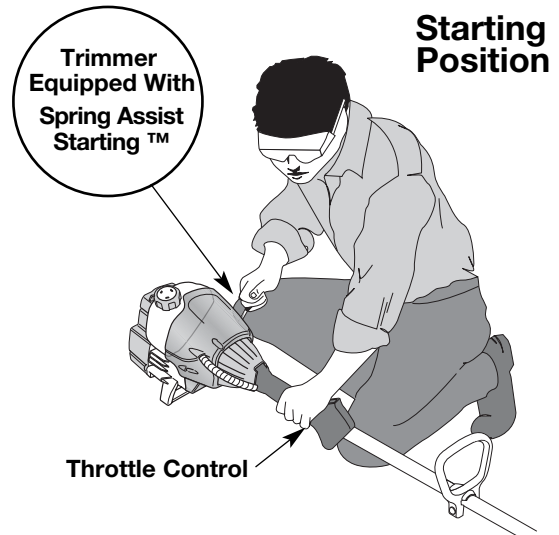

Fig. 8
WARNING: Avoid accidental starting. Make sure you are in the starting position when pulling the starter rope (Fig. 8). To avoid serious injury, the operator and unit must be in a stable position while starting.
4. Crouch in the starting position (Fig. 8), squeeze the throttle control, and pull the starter rope briskly 5 times.